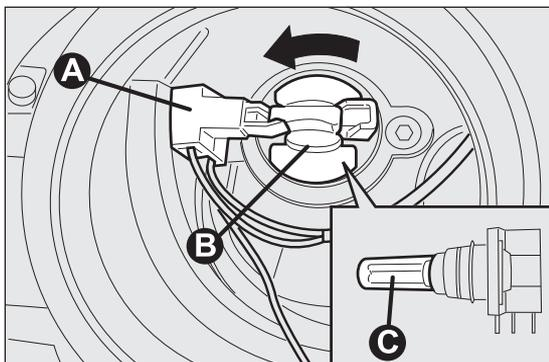

fig. 192
- disconnect the electrical connector A fig. 192;
- rotate bulb holder B fig. 192 anticlockwise and remove the unit;